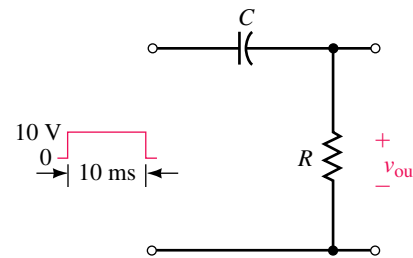

FIGURE 11-66
42. A single pulse is input to the circuit of Figure 11-66. Assuming that the capacitor is initially uncharged, sketch the output for each set of values below: